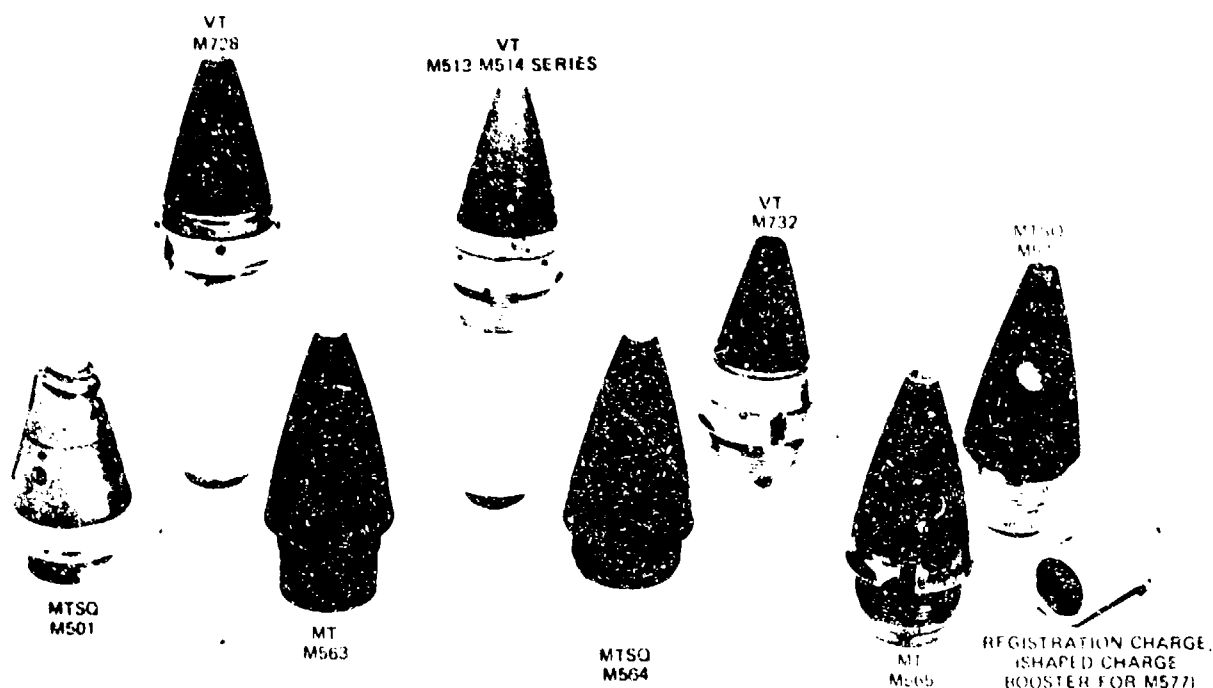

Figure 11-15. Time and proximity fuzes of the field artillery.
a. Mechanical time and proximity (VT) fuzes (fig 11-15), when installed and set properly, cause the projectile explosive train to function at the right time and place. This chapter contains information on the mechanical time (MT), mechanical time-superquick (MTSQ), and proximity (VT) fuzes being used in the field artillery at this time. It also discusses the fuze wrench to be used in installing each fuze, the fuze setter to be used in setting each type of fuze, the direction in which the time ring must be turned, and the number of times each fuze can be reset.
b. For many years field artillerymen the world over have used first the old powder train time fuzes (for example, the M54/M55) and then the mechanical time fuzes (such as the M501/M520, and later the M563, M564, and M565) to cause projectiles to function at a given time along the trajectory. They have also fired projectiles with both the old and the new proximity (VT) fuzes. The basic difference between the proximity (VT) fuzes is that the older fuze had no time ring for controlling the activation of the radio. The fuze